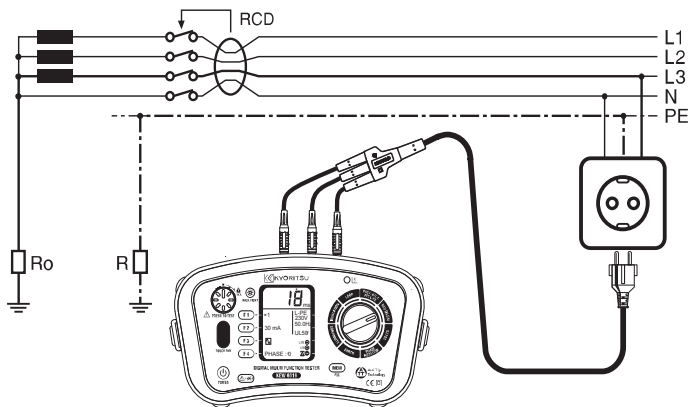

Fig.35
Ground being imperfect in the Fig35, when R exists, when a fault current flows to R, electric potential occurs. There is a possibility the person contacting in this imperfect ground, it calls the voltage, which it occurs in the human body of this time, called  $U_c$ . When with the  $U_c$  Test letting flow  $I \Delta N$  to the RCD, the  $U_c$  is calculated.  $U_c$  voltage is calculated based on the Rated Residual Current ( $I \Delta N$ ) with the impedance measured.
2. Connect the test leads to the circuit to be tested. (Fig.35, 36, 37)